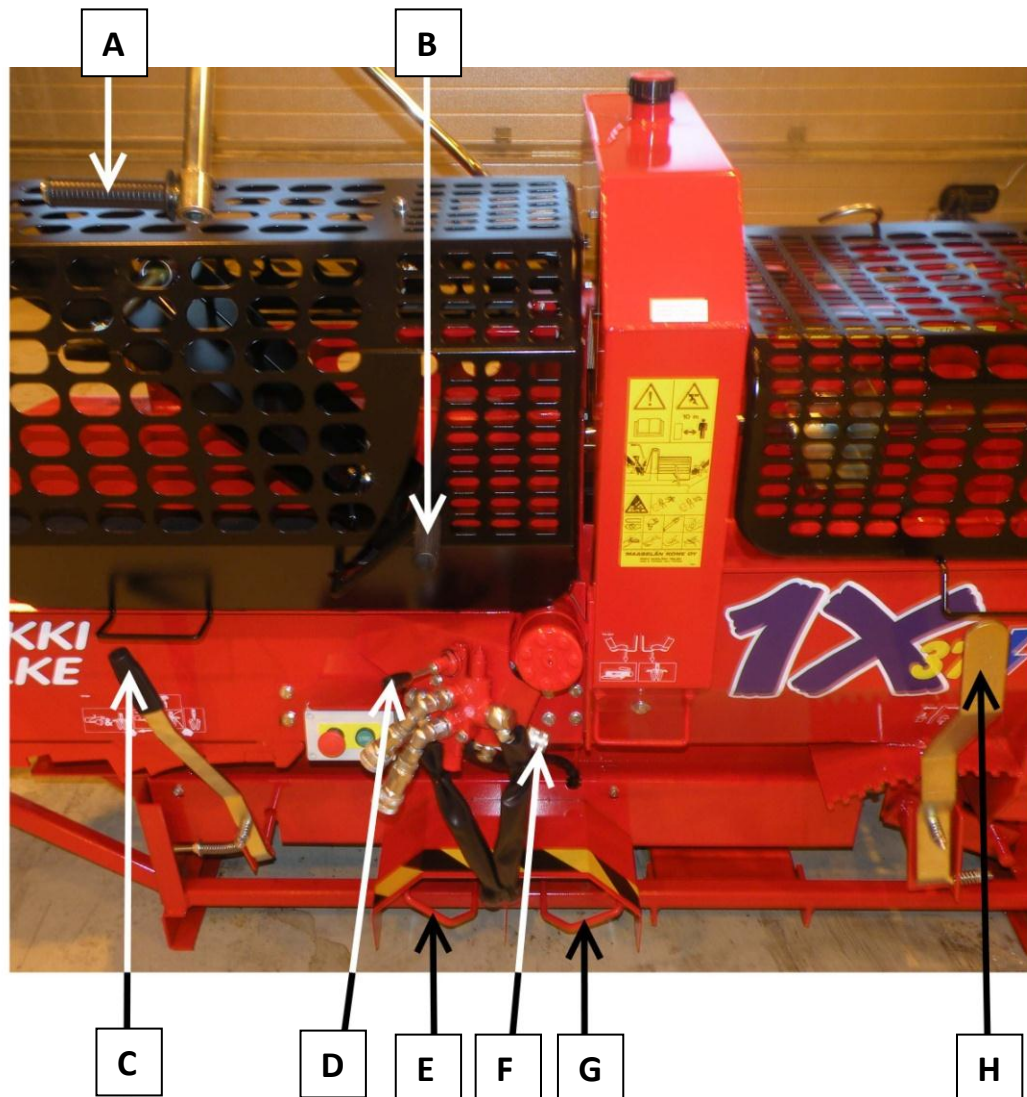

Figure 19. The control devices of the machine (basic model)
The control devices of the Hakki Pilke 1X37 log splitter (basic model) are presented in Figure 19. The names and functions of the control devices are as follows:
1. To adjust the length of the wood to be cut, set the operating lever C (Figure 19) to the Stop position, which enables you to open the guard of the splitting blade.
If the Hakki Pilke 1X37 log splitter is equipped with a pivoting output conveyor, the belt of the output conveyor is driven by a hydraulic motor. To change the speed of the belt, use the adjuster **F** shown in **Figure 19**. The following describes how the conveyor can be turned laterally by using the turning lever A and handle B: